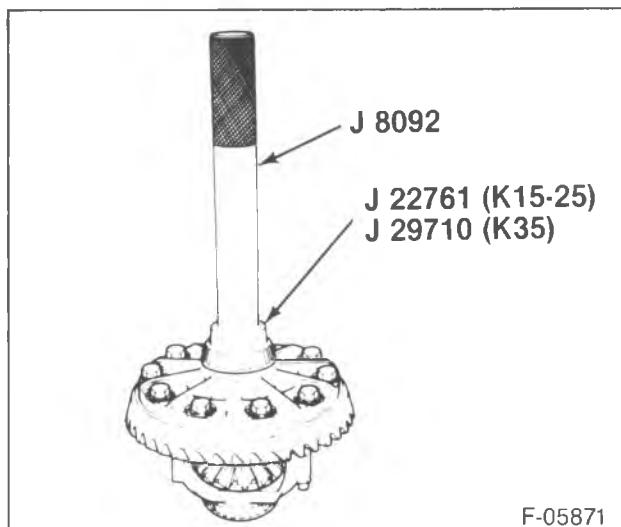

Figure 26—Installing the Differential Side Bearing
- Bolts (34) alternating in progressive steps to 120 N·m (88 ft. lbs.).
- 7. Side bearings (33), using J 22761 (K15-25 models) or J 29710 (K35 models) and J 8092 (figure 26).